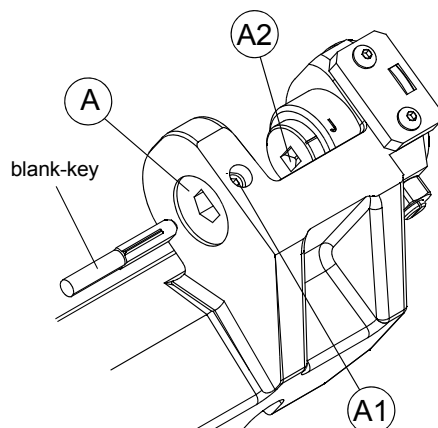

Fig. 14
- 1) place the key blank into the rotating centering clamp (A) (fig.14).
- 1) place the key blank tip into the rotating clamp (A) and push up against the tip stop groove (A2) (fig.14, page 12).
- 2) place the key blank into the rotating clamp (A) and push against the tip stop groove (A2) (fig.14, page 12). Hold the key down in the rotating clamp (A) and tighten the grub screw (A1) with the wrench provided.